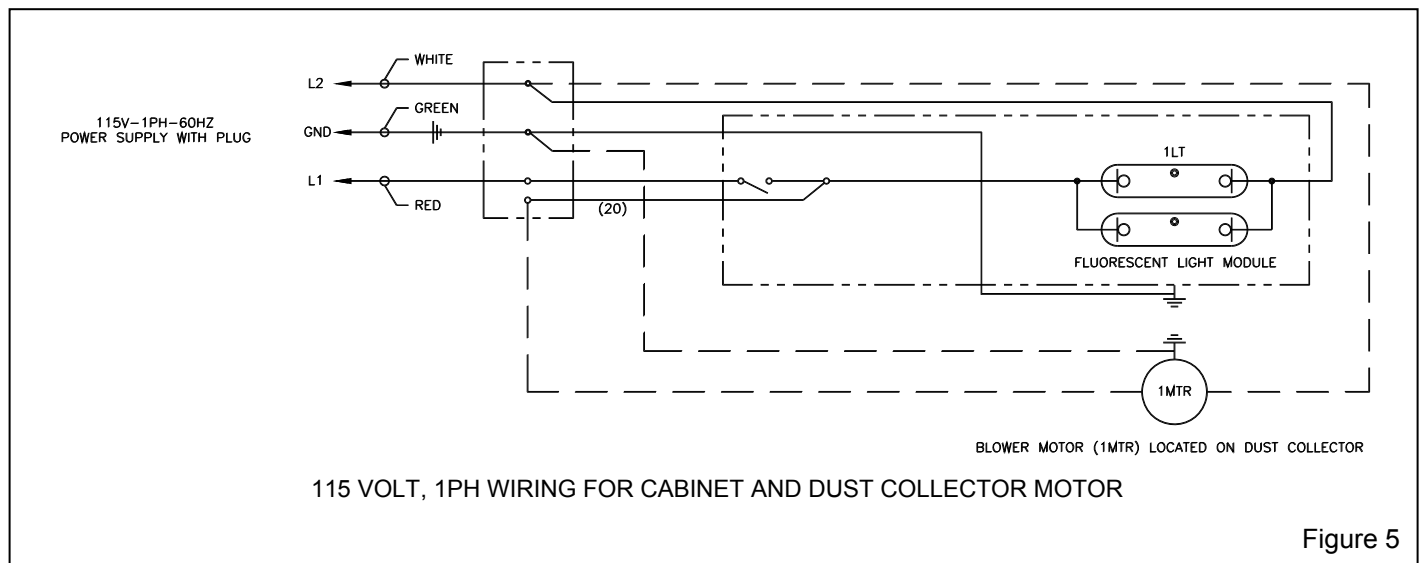

Figure 5
2.5.2 Refer to the wiring schematic in Figure 5 and wire the dust collector motor per instruction on the motor data-plate, to the junction box mounted on the cabinet. When wired as noted in Figure 5, the dust collector exhauster motor will start when the cabinet light switch is turned ON, and stop when the switch is turned OFF.